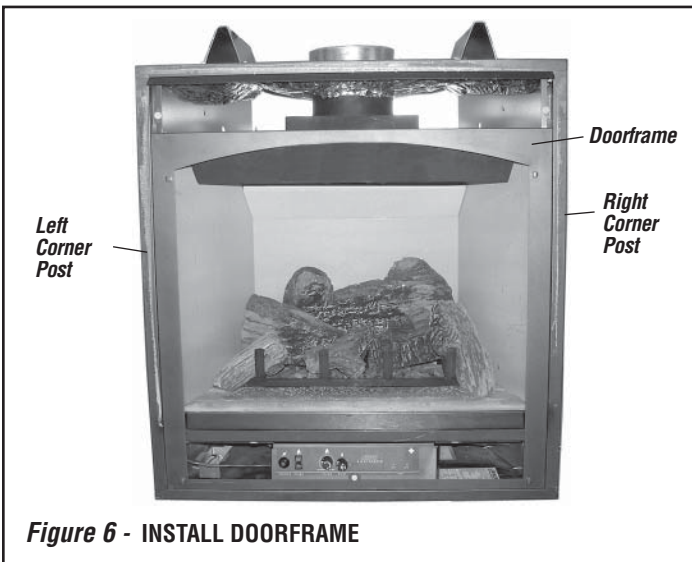

Figure 6 - INSTALL DOORFRAME
- 5. Install Doorframe (see Figure 6) -** Remove the arched doorframe from packaging. Position the top of the doorframe above the top of the glass doorframe (centered and approximately 1" above the top of the glass doorframe). Slide down so that the hooks catch on the back of the doorframe slide between the sides of the glass door and the corner posts engaging into existing slots on fireplace.